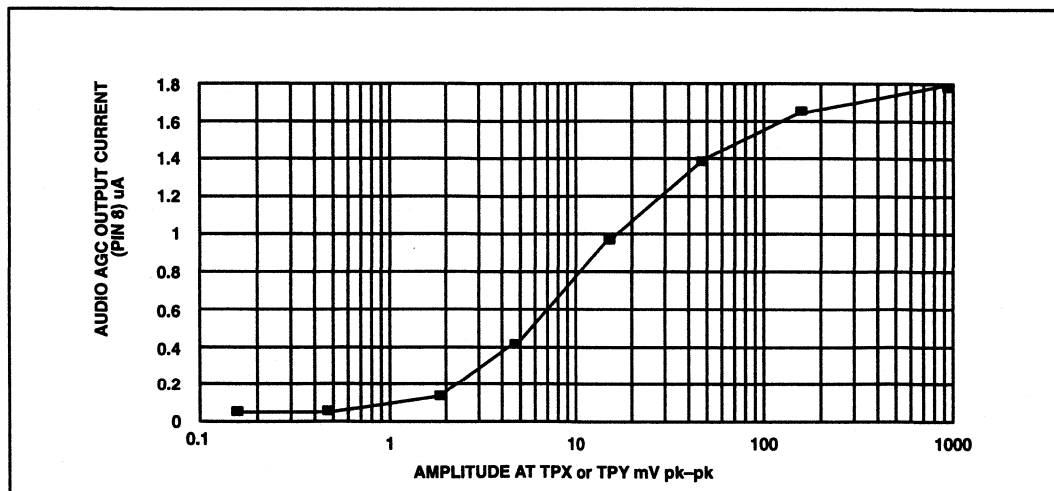
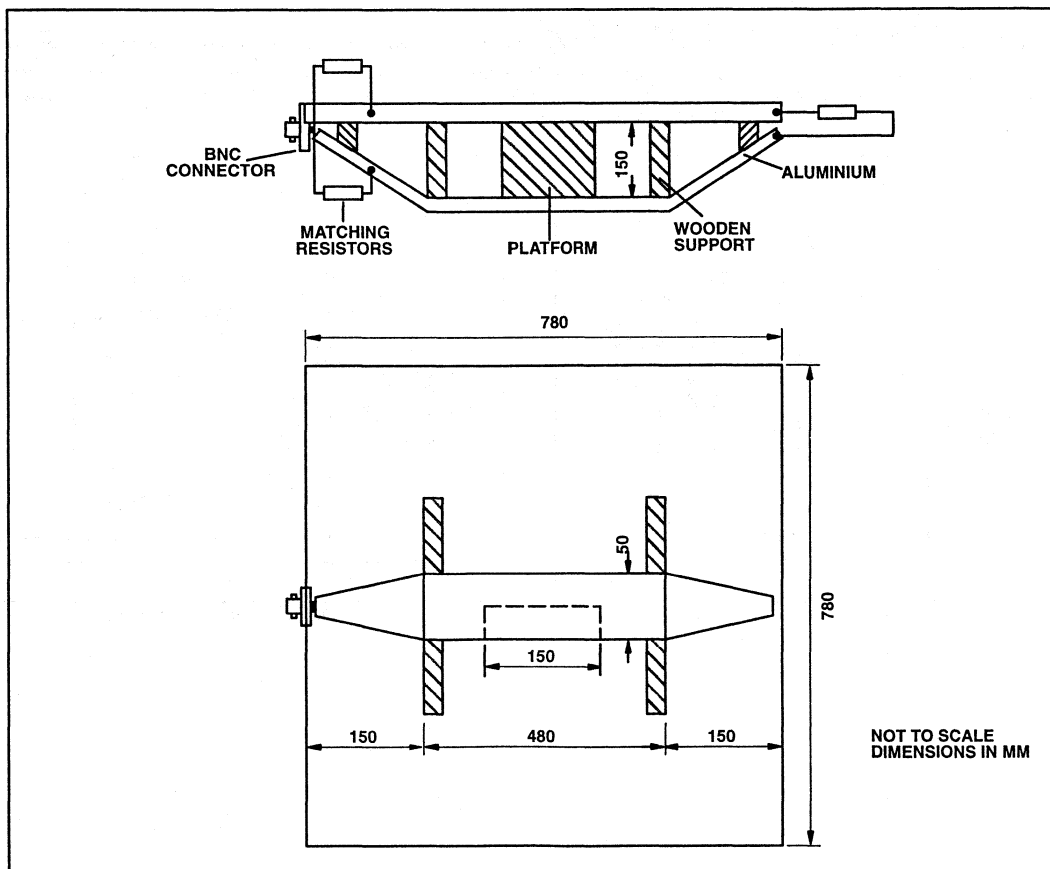

Fig. 8 RSSI Audio AGC vs Signal level at TPX or TPY
Fig. 7 Overall sensitivity measurement TEM cell
Absolute pager sensitivity in terms of $\mu\text{V}/\text{m}$ cannot easily be measured without the use of a screened enclosure and a calibrated field strength meter. The pager demonstration board was evaluated in a TEM cell whose detail is shown in Fig. 7. Measurements were carried out by comparing the demonstration pager sensitivity with other commercial pager of known absolute sensitivity. Fig. 8 shows the measurement set-up.
f) Encode the signal generator with a POCSAG encoder as illustrated in Fig. 8. Orientate the pager board within the TEM cell until the most sensitive position is obtained. Reduce the signal generator output level until 4 out of 5 calls are correctly received by the pager. This is the overall sensitivity of the pager measured in this particular TEM cell. Relative performance can be obtained by carrying out similar measurement on other pagers with known sensitivity.